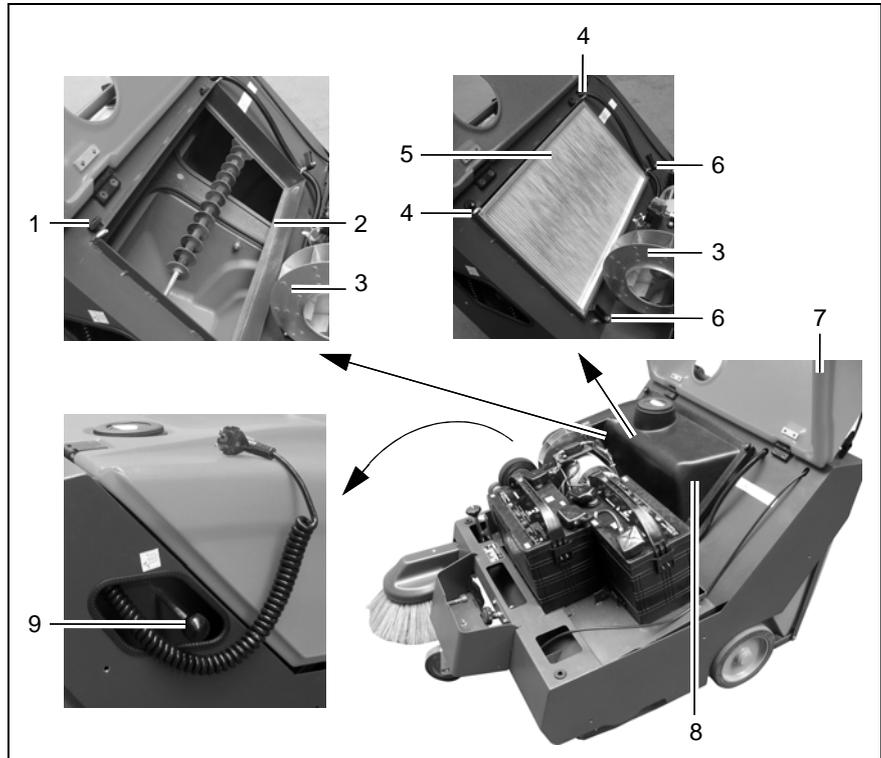

Fig. 26
Clean the panel air filter (Fig. 26/5) in the dust vacuum regularly and as necessary using the shaking device:
1. When the engine is switched off, pull/push the lever (Fig. 26/9) of the shaking device quickly, several times.
1. Unlock the hood (Fig. 26/7) using a square wrench and open the hood (Fig. 26/7).
Ensure the engine has stopped before opening the hood (Fig. 26/7). Risk of injury through belt drive and rotating fan(Fig. 26/3)!
2. Release the top filter cover locks: Unscrew the knurled screw (Fig. 26/1) from the threaded pins (Fig. 26/4).
3. Release the bottom filter cover locks: Pivot the hinged locks (Fig. 26/6) outwards.
4. Remove the filter cover (Fig. 26/8).
5. Remove the panel air filter (Fig. 26/5).
1. Drop the panel air filter (Fig. 26/5) a few times from a small height onto a level, solid surface. Be careful not to damage the filter ribs!
The ground must not have any surface irregularities. Do not drop the panel air filter (Fig. 26/5) onto the ground at a slant.
Never install panel air filters (Fig. 26/5) which have damaged filter ribs!
If the panel air filter (Fig. 26/5) is removed, check the self-adhesive sealing strips (Fig. 26/2) for signs of damage. Damaged sealing strips (Fig. 26/2) must be replaced:
1. Pull off the damaged sealing strips (Fig. 26/2).
2. Clean any residual adhesive from the surfaces on which the sealing strips (Fig. 26/2) must be adhered.
3. Adhere the new sealing strips (Fig. 26/2).
1. Insert the thoroughly cleaned or new panel air filter (Fig. 26/5) from the correct side in the filter support frame.
Pay attention to the labeling on the side of the panel air filter (Fig. 26/5)!
2. Replace the filter cover (Fig. 26/8).
3. Close the bottom filter cover locks: Pivot the hinged locks (Fig. 26/6) over the edge of the filter cover (Fig. 26/8).
4. Close the top filter cover locks: Screw the knurled screws (Fig. 26/1) on the threaded pins (Fig. 26/4).
5. Close the hood (Fig. 26/7) so that it audibly locks.
5. Check whether dust has accumulated on the inner side of the panel air filter (Fig. 26/5).
Do not open the hood (Fig. 26/7) when the engine is running. Risk of injury through belt drive and rotating fan(Fig. 26/3)!
Do not open the hood (Fig. 26/7) when the engine is running. Risk of injury through belt drive and rotating fan (Fig. 26/3)!
1. When the engine is switched off, hood (Fig. 26/7) is open and filter cover (Fig. 26/8) removed, check whether dust escapes at the edges of the panel air filter (Fig. 26/5).
2. If this is the case, check the sealing strips (Fig. 26/2), refer to paragraph 5.10.4 and replace, if necessary.
3. Check the panel air filter (Fig. 26/5) and replace, if necessary. The frame of the panel air filter (Fig. 26/5) must not be twisted nor show signs of damage. Ensure that the panel air filter (Fig. 26/5) has been inserted true to side, refer to paragraph 5.10.5.
4. Repeat this test a certain time after cleaning. If dust continues to escape at the edges of the panel air filter (Fig. 26/5), contact a Hako service center.